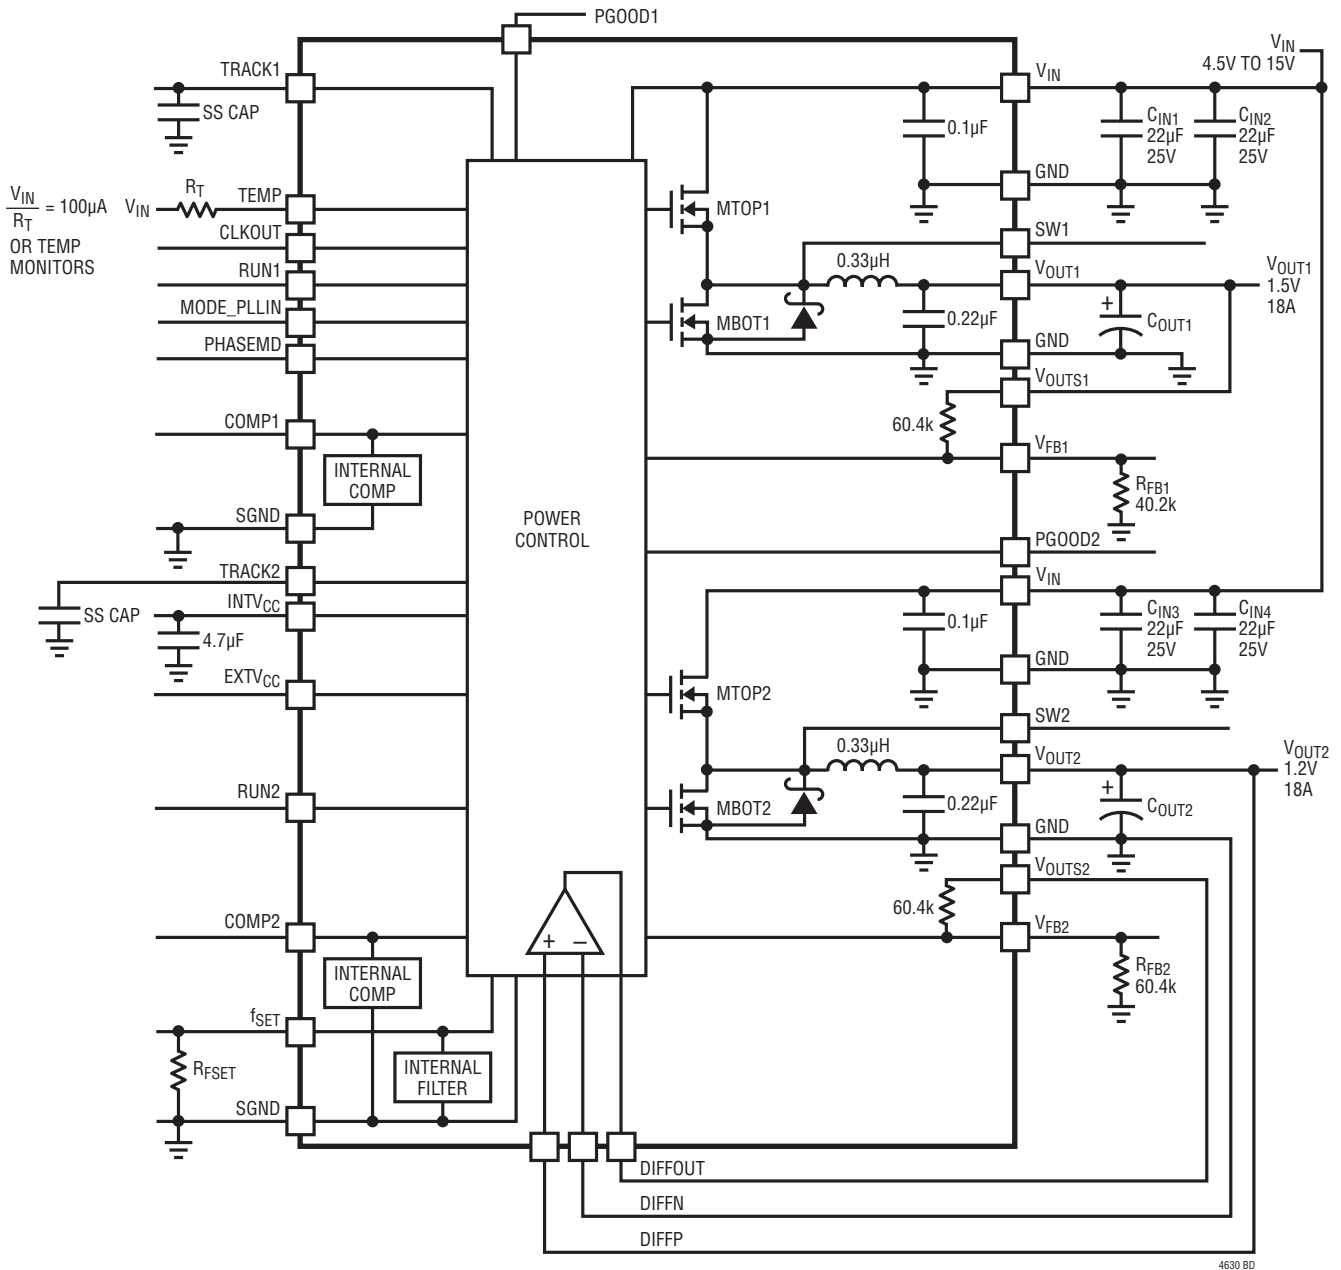

Figure 1. Simplified LTM4630 Block Diagram
**DECOUPLING REQUIREMENTS** TA = 25°C. Use Figure 1 configuration.